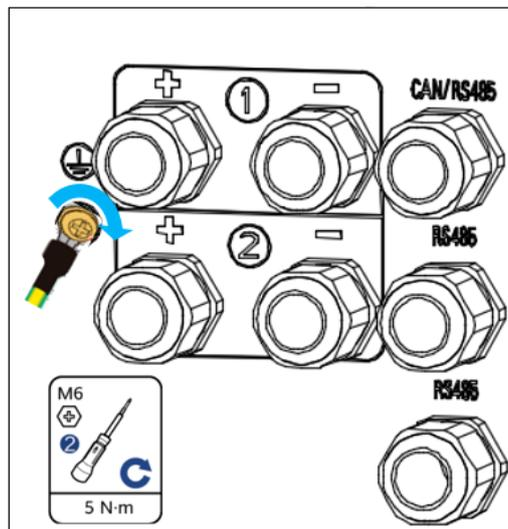

Fig. 4.3.1 Ground cable connection
Step1. Use a screwdriver to fix the ⑧ground wire terminal to the battery ground point refer to Fig. 4.3.1.